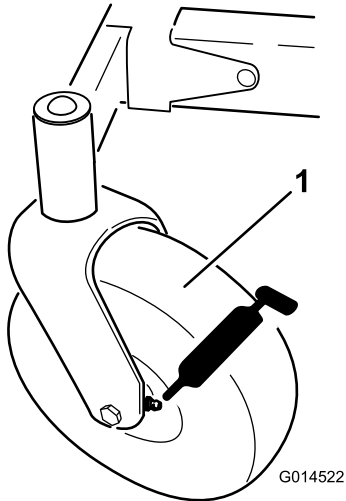
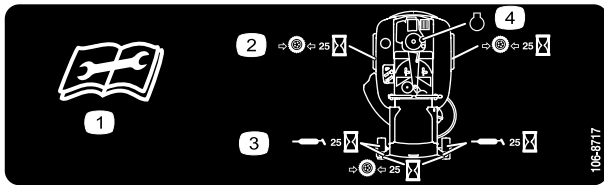

Figure 24
Figure 25
- Clean the grease fittings (Figure 24 and Figure 25) with a rag. Make sure to scrape any paint off of the front of the fitting(s).
- Connect a grease gun to each fitting (Figure 24 and Figure 25). Pump grease into the fittings until grease begins to ooze out of the bearings.